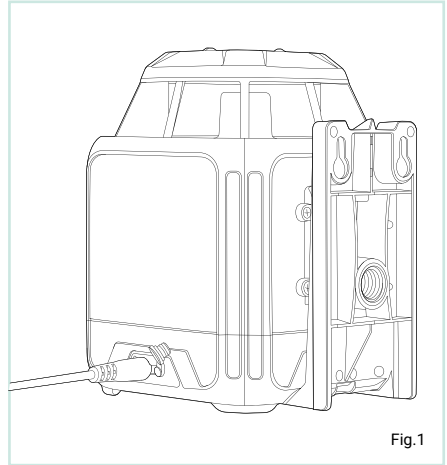

Fig.1
- Insert the charging cable into the charging port on the side of the laser level (Fig.1).